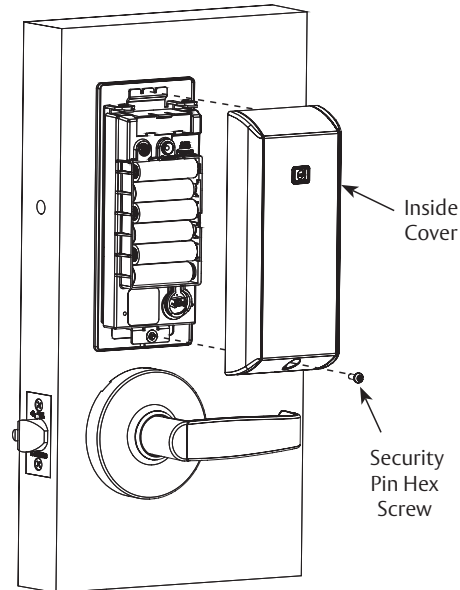

Fig. 27
13. Install inside cover. (Fig. 27)